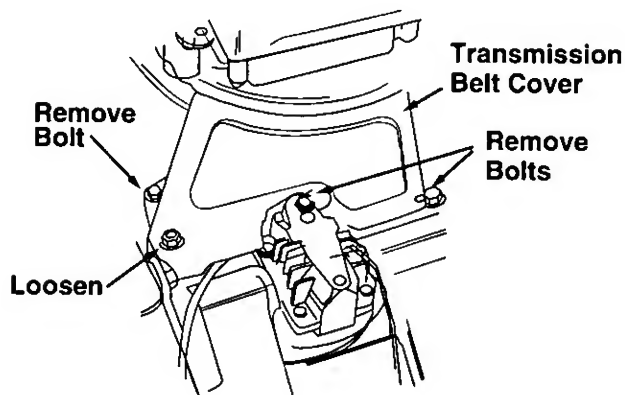

Figure 17.
- Remove the transmission belt cover by removing three bolts. See figure 17.